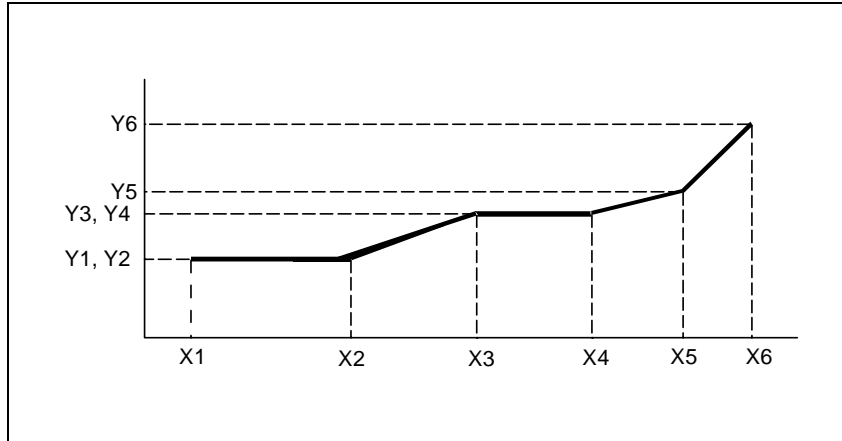
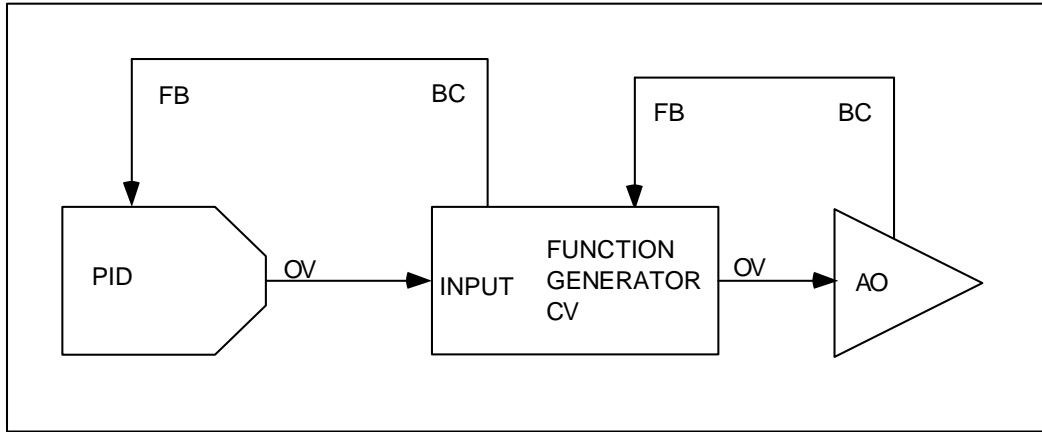
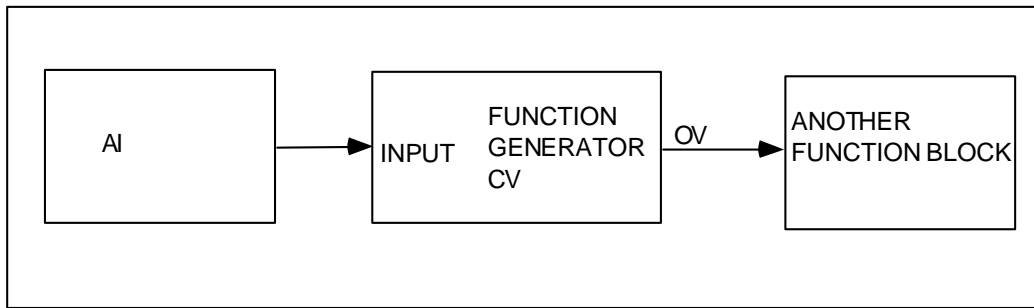

Figure 4-7 Function Generator Curve
Figure 4-8 Function Generator Configuration For Valve Characterization
Figure 4-9 Function Generator Configuration For Input Signal Characterization
This CV type can be used to characterize a valve (Figure 4-8) or an input signal (Figure 4-9). You enter a custom curve of up to 19 segments (20 X,Y coordinates). The input is compared with the X values and its corresponding Y value becomes the output CVn OV. Interpolation between coordinates is straight line. See Figure 4-7.
| FEEDBACK | OFF, analog parameter, number | For valve characterization, select AO# BC to propagate the back calculation (BC) value from a downstream Analog Output. Also, program the upstream loop's feedback with this CV's back calculation value (CV# BC). See Figure 4-8. Attention: If feedback is programmed to an analog parameter or a number, the X and Y values must define a curve that is not bell shaped or complex. That is, all Y values must be increasing or decreasing. |